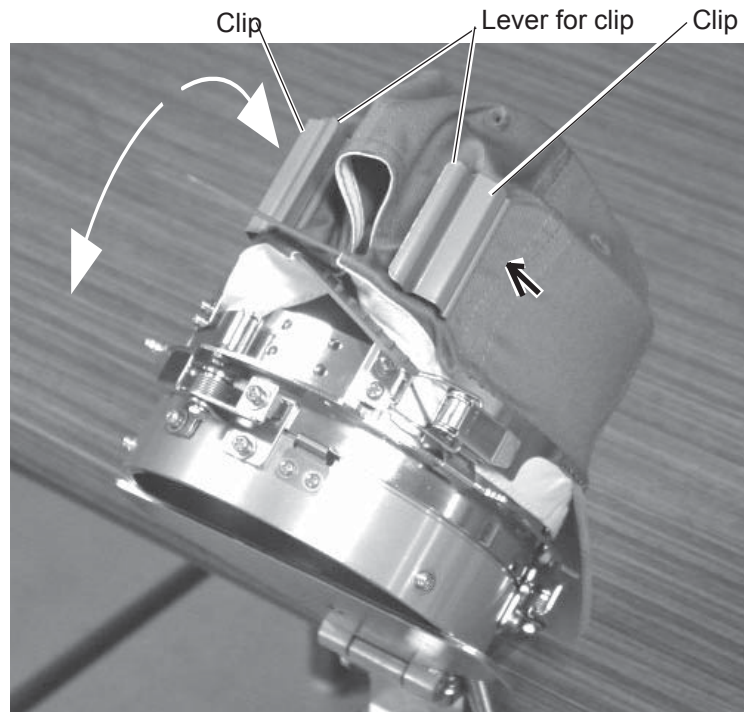

Fig. 4
- As shown in Fig. 4, tip the cap stretcher forward. Clip the back of the cap and nonwoven fabric in two places.